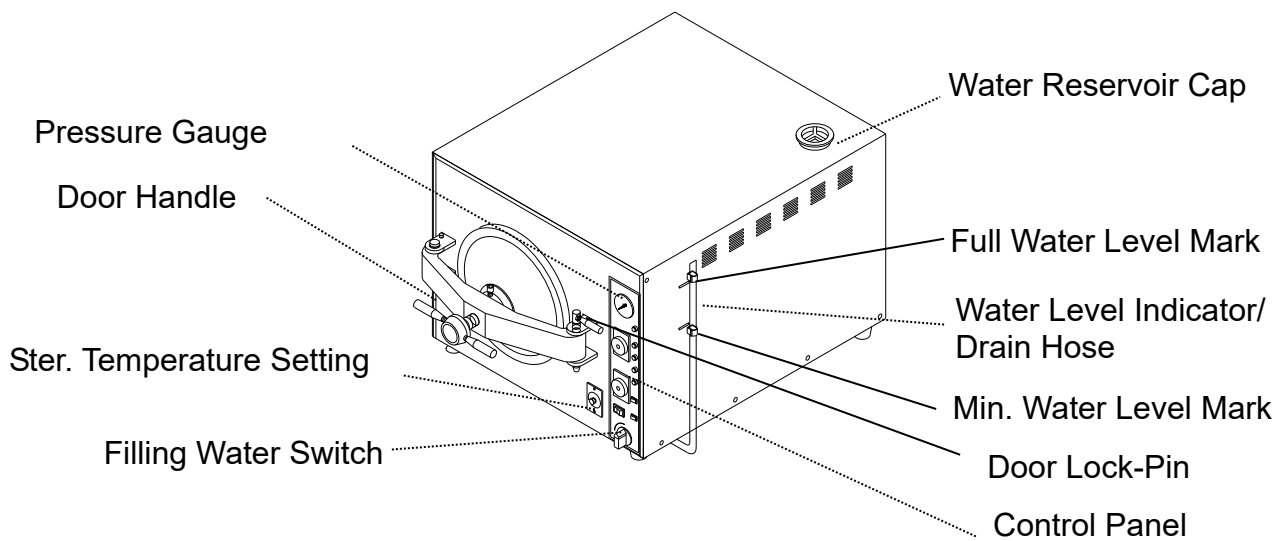

Figure 9 - Front View
G. Close the door and lock it by Door Lock-Pin (See Figure 9 ).